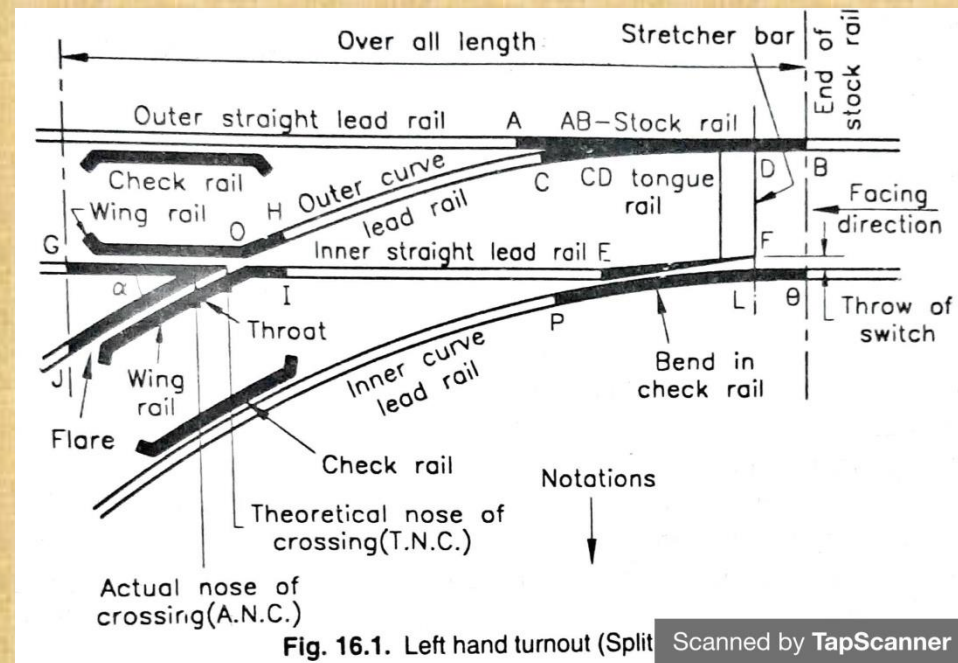

Fig. 16.1. Left hand turnout (Split) Scanned by TapScanner
(i) **Facing Direction.** If someone stands at toe of switch and looks towards the crossing, then the direction is called "Facing Direction"(Fig. 16.1) .
(ii) **Trailing Direction.** If someone stands at the crossing and looks towards the switches, then the direction is called "Trailing Direction"(Fig. 16.1) .
**(i) A pair of stock rails.** They are the main rails of the track to which the tongue rails fit closely against them. They are made of the rail steel and have the same dimensions (i.e. rail section) as for other rails in the track (Fig. 16.1 AB and PQ) where PQ has bend in rail and AB is straight.
**(ii) A pair of tongue rails.** Tongue rails are supported on sliding plates and each pair of tongue rails is connected by stretcher bars near the toe of switch so that both the tongue rails move together through the same distance or gap and maintain the gauge. This gap (i.e., FL—Fig. 16.1) is known as throw of switch.
- This type of crossing is widely used. This crossing is obtained when a left-hand rail of one track crosses a right-hand rail of another track or vice versa (Fig. 16.1)